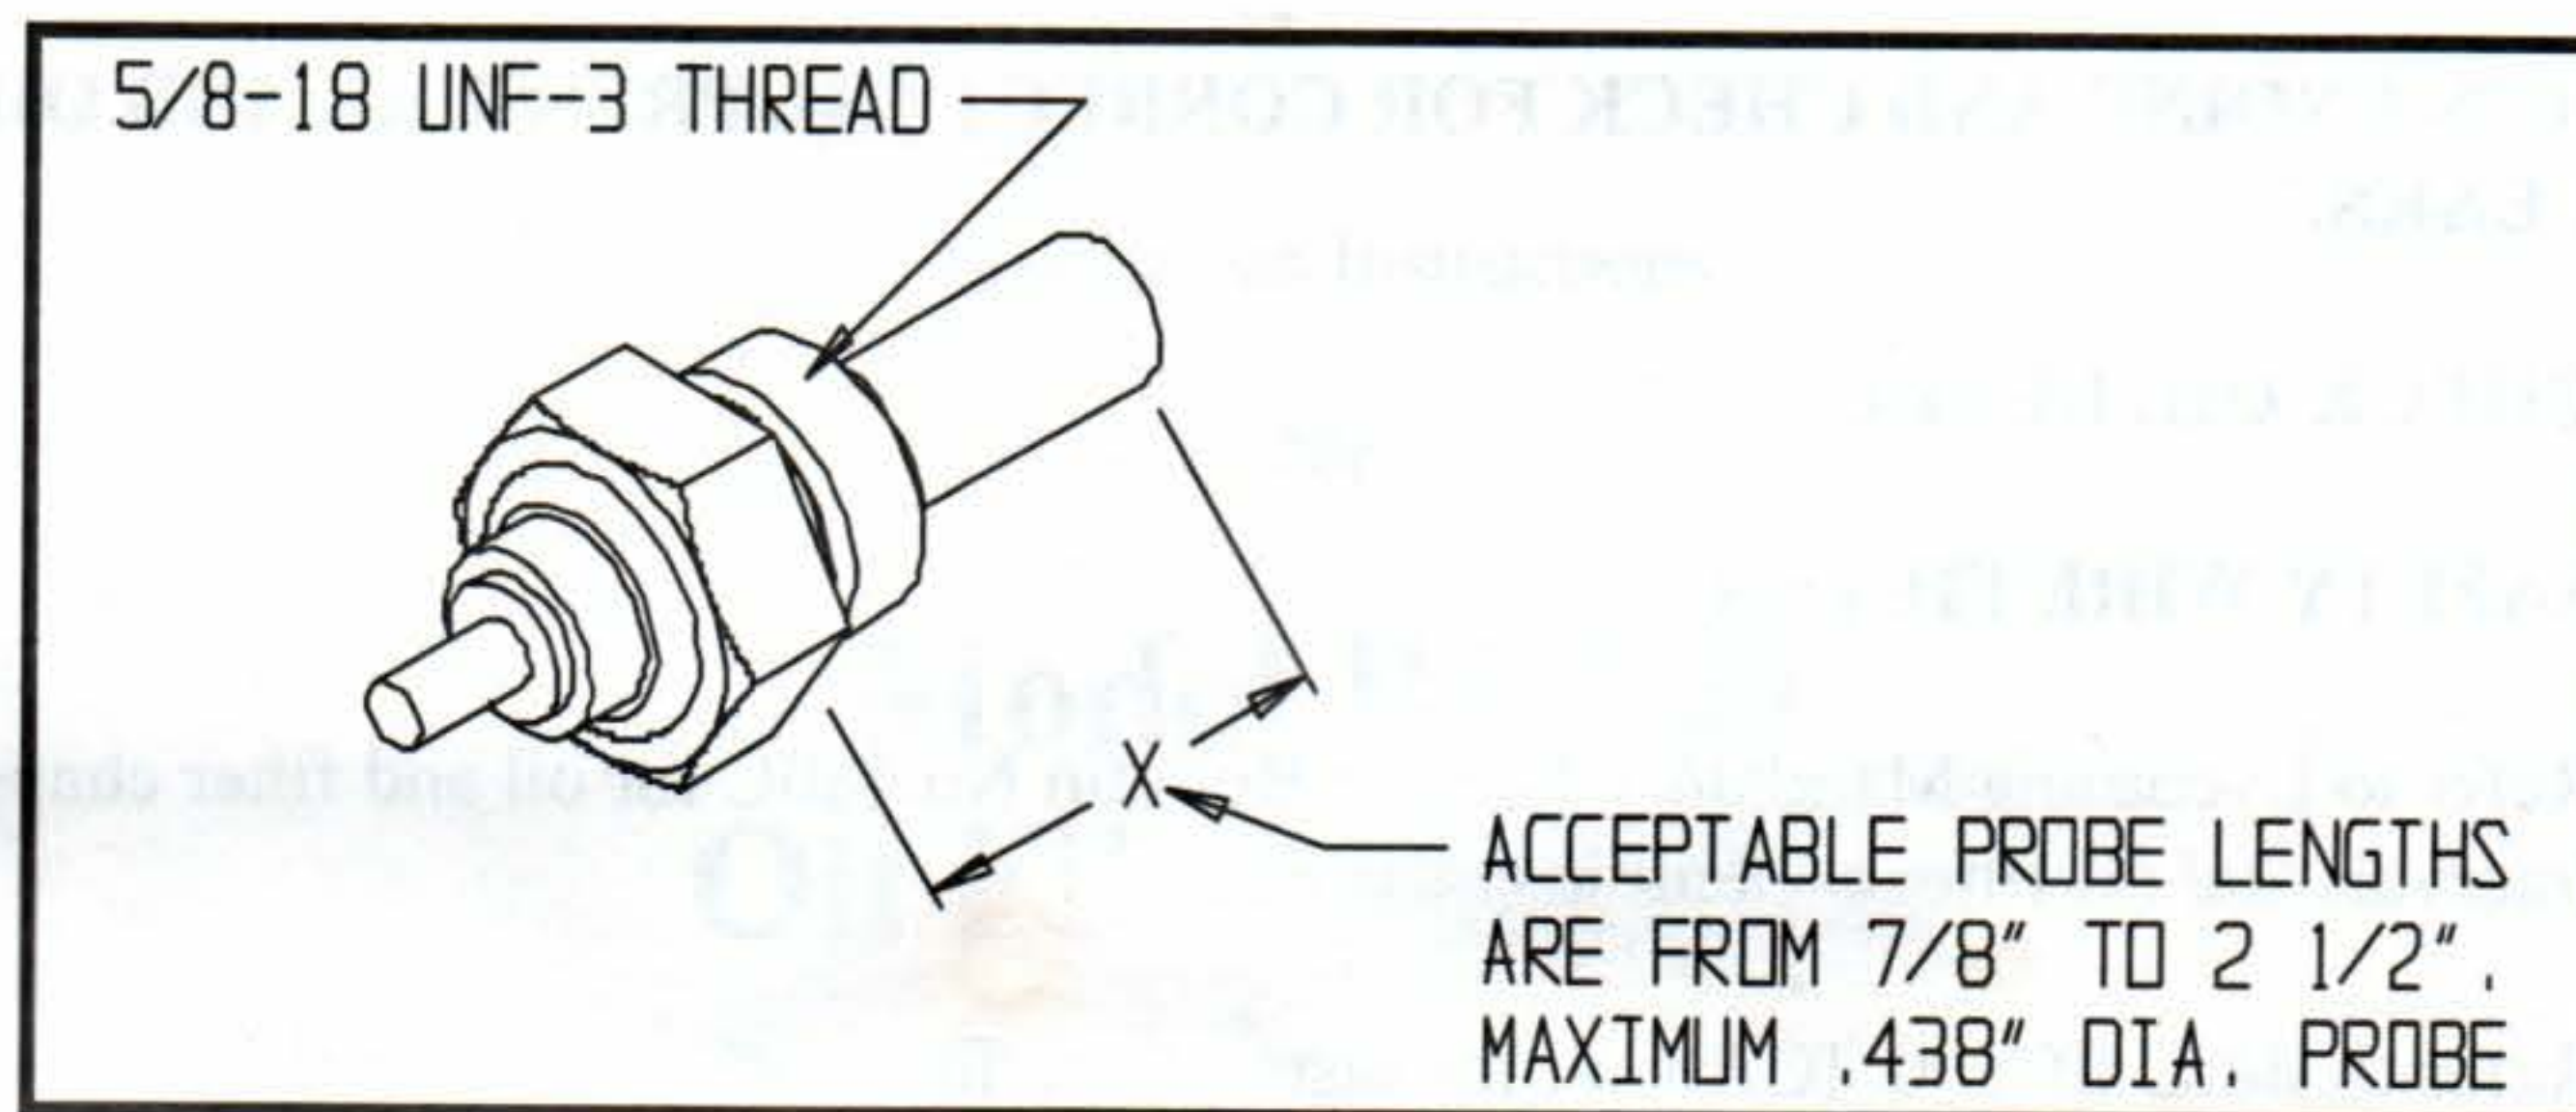

Figure 3
10. After removing filter from the **OFA** install the **OFA** using the four (4) new Lycoming STD-1856 1/4" bolts with an AN960-416 washer on each bolt. Using a 7/16" six point thin wall (Snap-On or similar) socket, torque the four (4) bolts to 75 in. lbs.
12. The hole provided for the oil temperature bulb is tapped 5/8-18UNF to accommodate P/N MS28034-1 temperature bulb. If a different type is used (such as a large "bourbon tube" type) an adapter, B&C Part Number 700-304-1, may be required to provide the proper seat for the probe. Check Figure 3 for maximum temperature probe size.